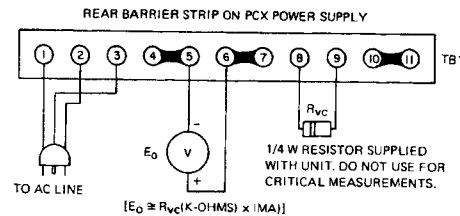

FIG. 2-4 OPERATION CHECK PCX
- a) PCX MODELS. Connect PCX to AC input power and connect a suitable DC voltmeter as shown in FIG. 2-4 below. The output voltage measured on the connected meter will be proportional to the resistance connected across terminals (8) and (9) of the rear barrier-strip on the power supply (TB1). Since a (nominal) 1 mA control current is used in PCX power supplies, the output voltage (E_O) will be approximately equal to the number of kilohms used times 1 mA.